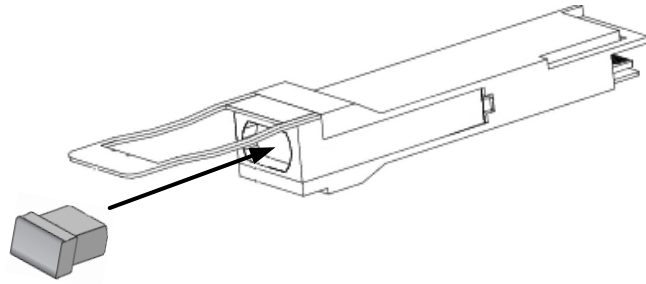

Figure 7 : QSFP+ Module with pull tab latch open
5. Insert the clean dust covers into the module, as shown in Figure 7.